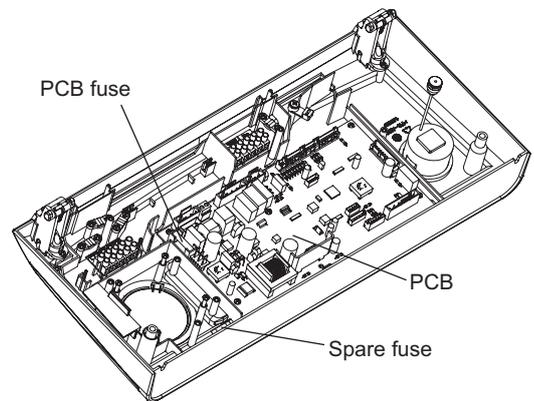

Fig. 32
7.11 TERMINAL BLOCK FUSE - Fig. 32
Note: A spare fuse is supplied, as shown in Fig. 32.
7.12 PCB - Fig. 32